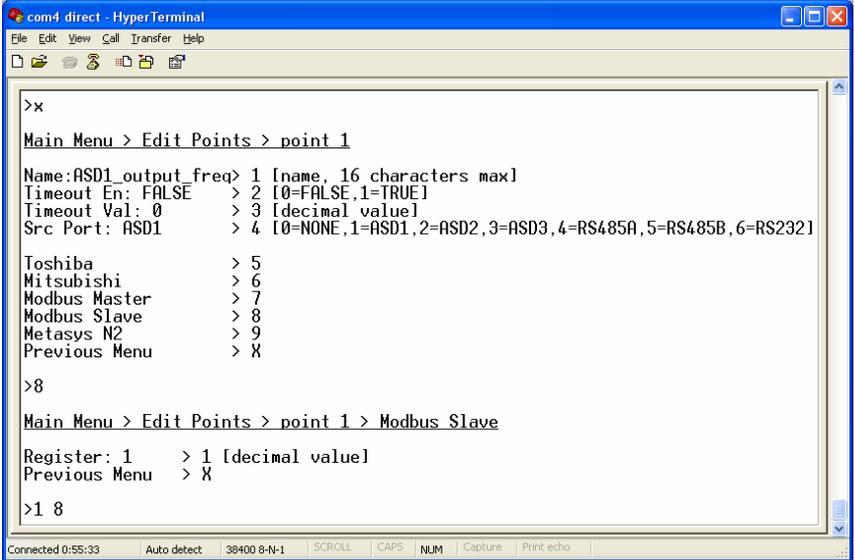

Figure 17: Edit Modbus Slave Attributes
- Edit Register:** Menu selection 1 allows you assign a Modbus holding register to this point. Figure 17 shows an example of how to change the current setting of 1 to 8.